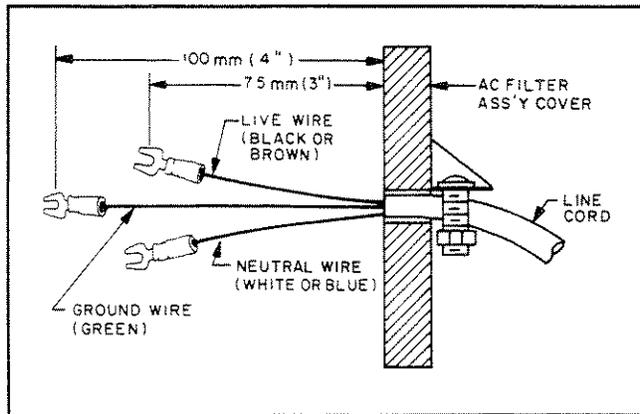

Figure 2-2. Power Cord Preparation
- Prepare the power cord as shown in Figure 2-2 and insert it through the strain relief clamp located on the cover.